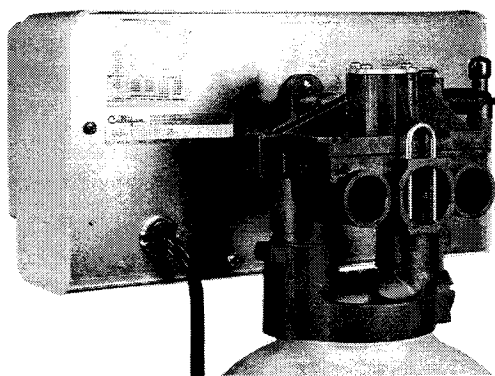

Fig. 15
- Remove the two screws that hold the mounting bracket to the control valve body, raise the U-clip about 1/2" (12.7 mm) and remove the mounting bracket from the control (Fig. 15).